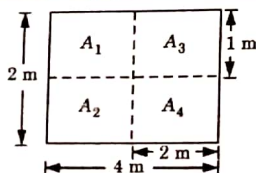

Fig. 4.
i. The rectangular area divided into small rectangle is shown in Fig. 4.